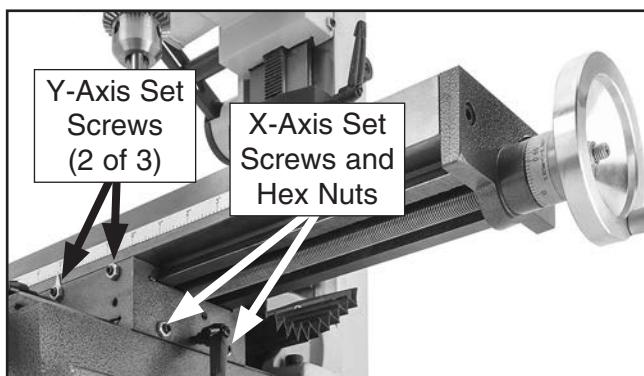

Figure 38. Location of gib adjustment set screws.
3. Loosen hex nuts on gib screws along desired gib adjustment (see **Figure 38**).